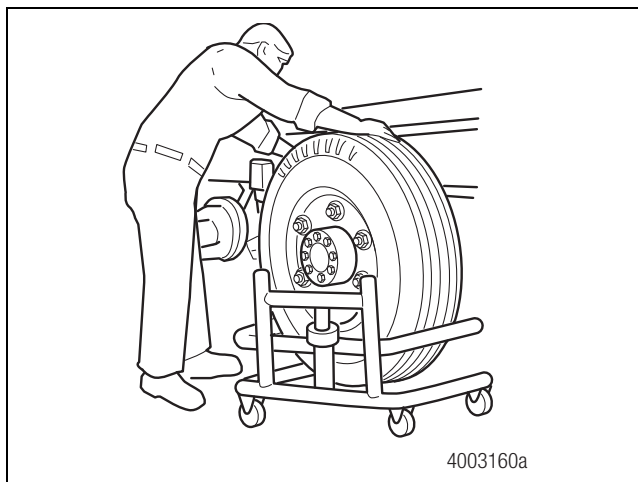

Figure 3.7
5. Remove the tire and wheel assembly using procedures specified by the wheel manufacturer. Figure 3.7.